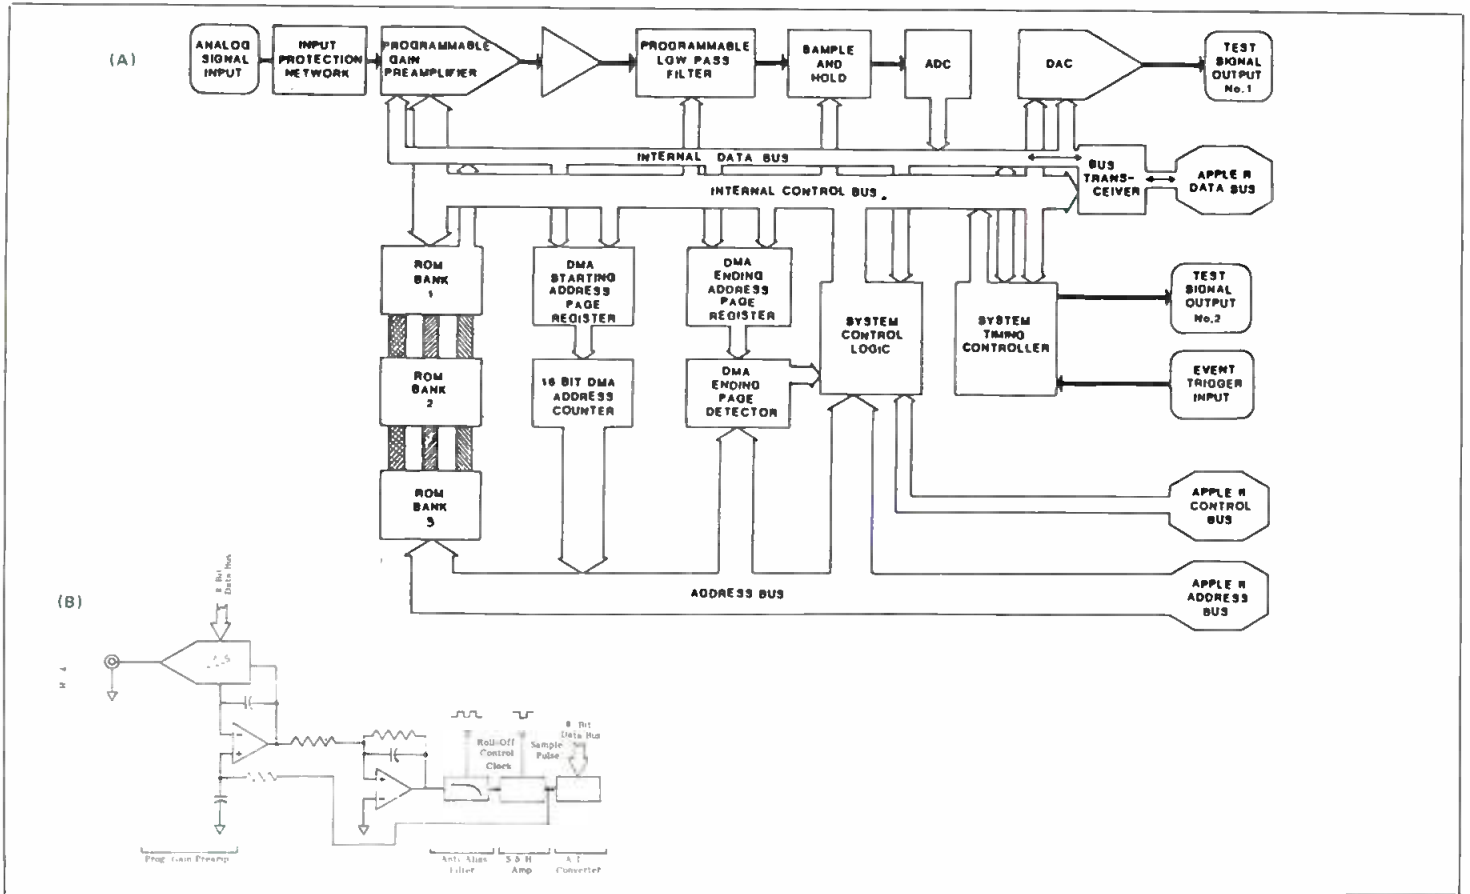

Figure 1. Block diagram of IQS Series 401 hardware (A) and Signal Acquisition Processor (B).
The basic system architecture (1) is outlined in FIGURE 1. The preamp (FIGURE 1B) is gain-controlled by a DAC used as a digitally programmed attenuator, via software operation. In the feedforward compensation mode, the preamp has an extended gain bandwidth factor of ± 0.2 db from 5 Hz to 40 kHz.
Referring to the system block diagram in FIGURE 1, the digital portion is represented by the lower 2/3 of the diagram. It provides interface, memory, timing, and logic control functions. The SYSTEM CONTROL LOGIC block determines how each module interacts with one another and links the overall system to the Apple II bus structure. In order to maximize efficiency, many of the most often used machine code subroutines (including the FFT program) are placed in read only memory (ROM). Three ROM sockets (ROM BANK 1-3) are incorporated in the hardware, each providing 4 kilobytes of program storage. A single 4-kilobyte ROM is installed in the present version, thus allowing 8 kilobytes of expansion for additional signal processing functions.